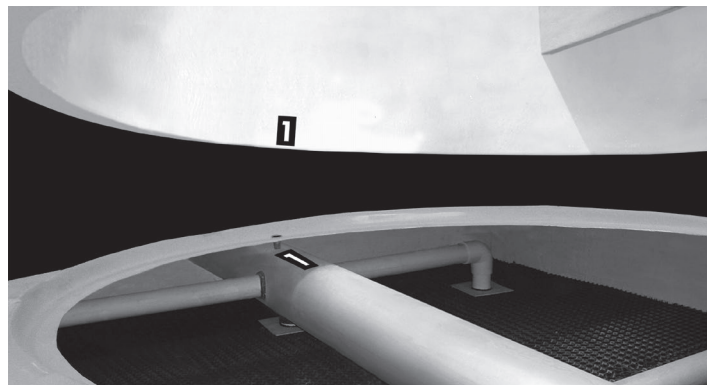

Figure A-41: Fan Duct alignment for a Double Fan Tower
- K. Identify each fan duct, they are labeled with a number on the inside of the lower edge. For a correct installation, this number must match the number on the distribution manifold of the corresponding body section. Place fan duct 1 on the corresponding receiving flange on top of body section 1 of the Tower; make sure the bolt holes and the marks inside the fan duct and receiving flange are aligned (Figure A-41 and A-45). Secure it with the stainless steel nut and bolt sets supplied by REYMSA.